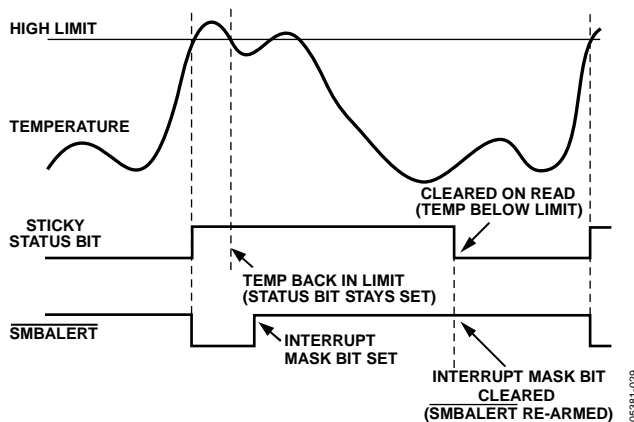

Figure 26. How Masking the Interrupt Source Affects SMBALERT Output
7. Periodically poll the status registers. If the interrupt status bit has cleared, reset the corresponding interrupt mask bit to 0. This causes the SMBALERT output and status bits to behave as shown in Figure 26.